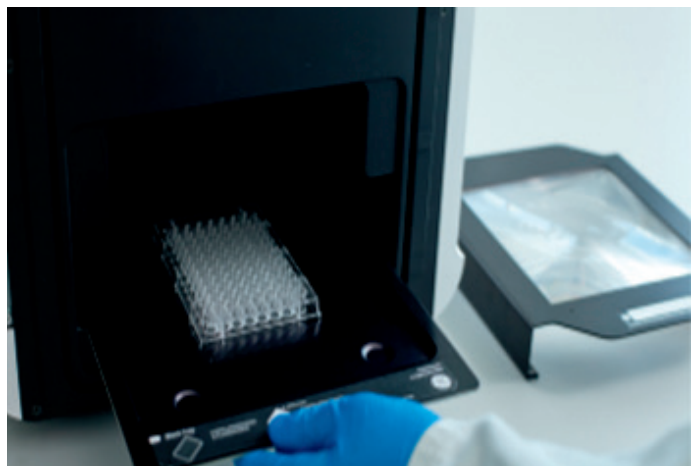

Fig 13. Use NP lens to avoid optical artifacts (also called parallax errors). This also avoids shadows caused by wells of the multiwell plates.
ImageQuant 800 systems are truly adaptable, allowing users to image not only gels and blots but a wide variety of samples (Fig 12). This versatility makes an ImageQuant 800 imager ideal for multi-user environments accommodating many different types of samples and applications. Special accessories, such as the non-parallax (NP) lens, allow users to get artifact-free chemiluminescence images of petri dishes and multiwell plates (Figs 13–14).